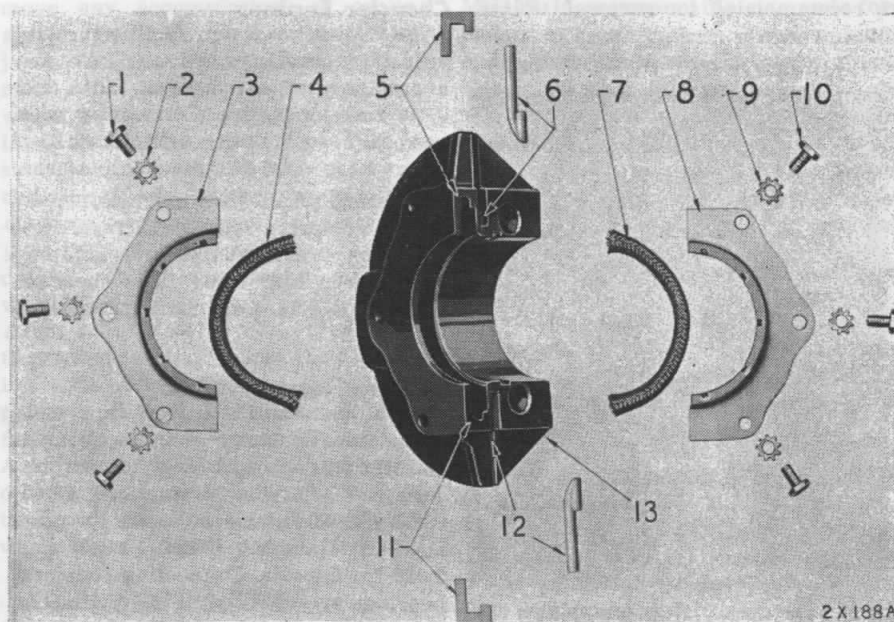

Fig. MH152—Chrysler crankshaft rear oil seal details.
67. A two piece, woven packing ring type seal is used for the shaft seal Fig. MH152. The upper half of the ring seal is held by a retainer which